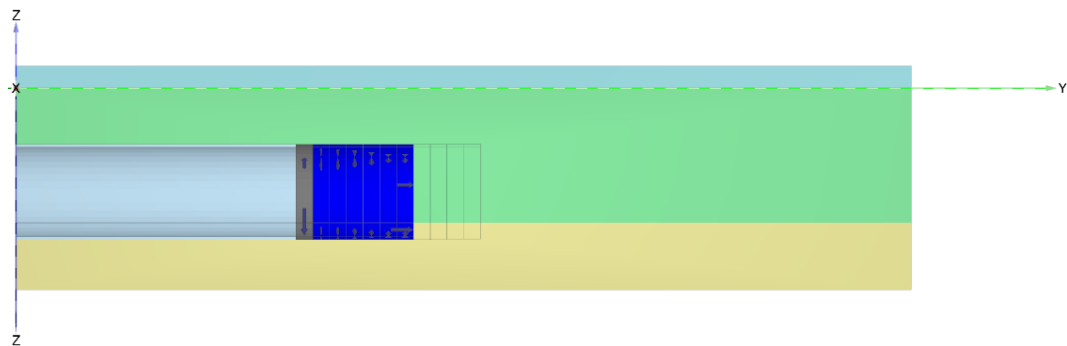

Figure 5-26: Advancement tunnel after the first 25m
- 2 In the **Model explorer** expand *Tunnels* and then expand *Tunnel_1*. Scroll down until the option **Advancement step** and set it to 7 in order to simulate the advancement of the first 25 m. Notice that the final lining is automatically activated (see Figure 5-26 \(p. 106\)).